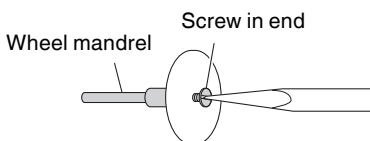

Fig. 7 (b)
- How to use the drum mandrel (Fig. 7 (c))